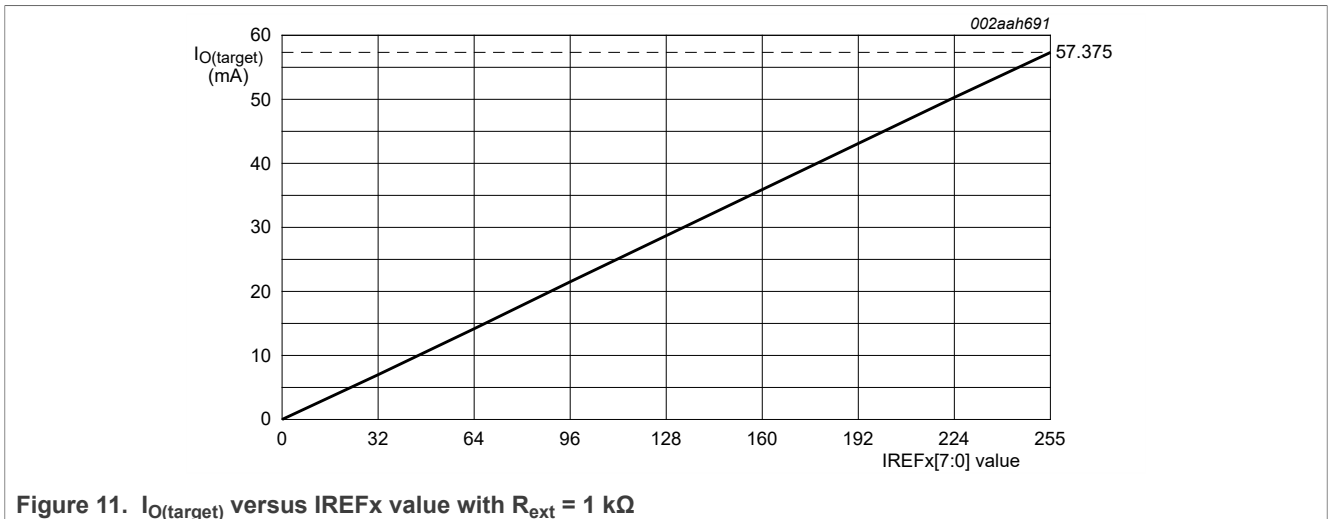

Figure 11. IO(target) versus IREFx value with Rext = 1 kΩ
**Example 1:** If  $R_{ext} = 1 \text{ k}\Omega$ ,  $I_{O\_LED\_MIN} = 225 \mu\text{A}$ ,  $I_{O\_LED\_MAX} = 57.375 \text{ mA}$  (as shown in Figure 11).